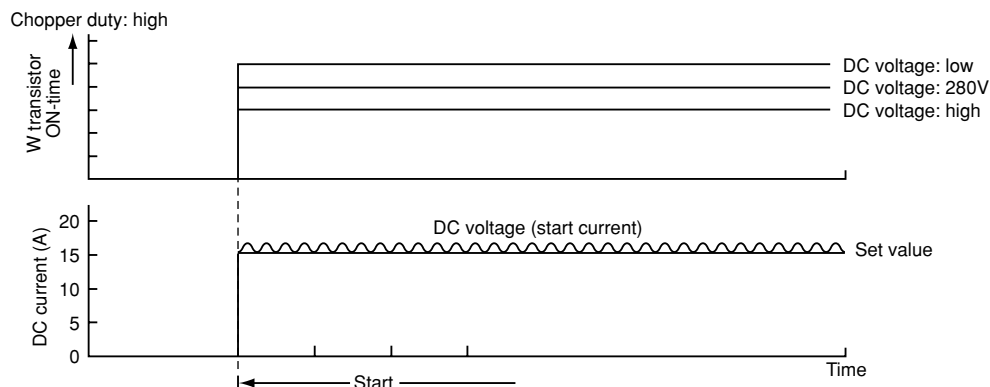

Fig. 8-10
(2) Varies the turn-ON time of the W^+ transistor according to the DC voltage level and the start is controlled so the start current is approx. 10A as shown in Fig. 8-10.